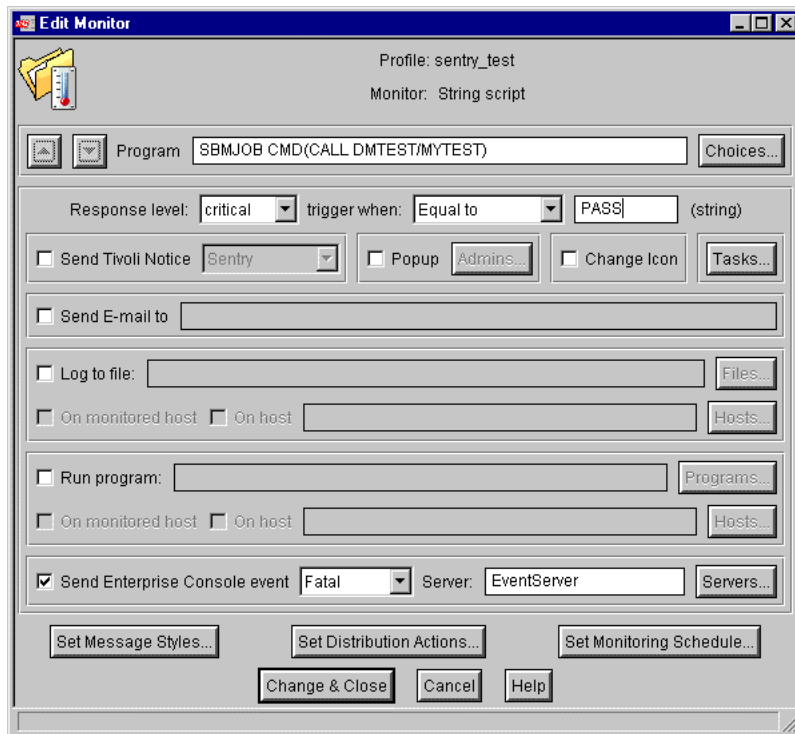

Figure 148. Configuring custom monitor
2. In this case, the response is to send an event to the TEC server with the string returned from the program Equal to PASS as shown in Figure 148 on page 269.